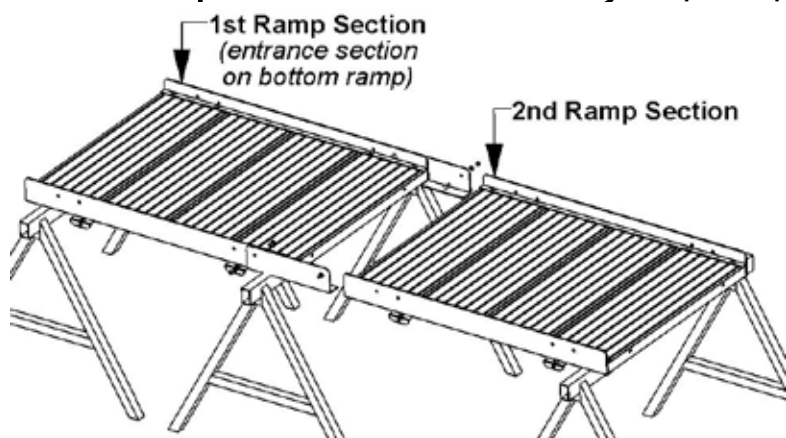
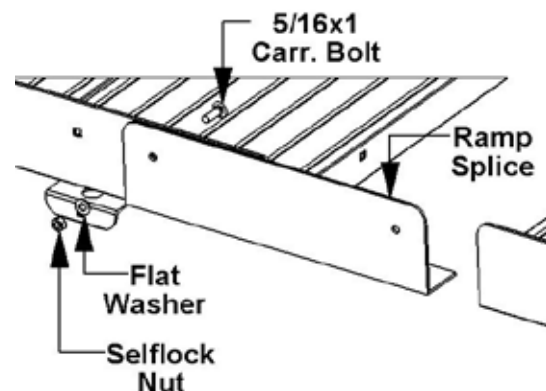

Fig.4.1
Fig.4.2
**4.1 Ramp Section Assembly:** If system has platforms assemble platforms first and set in place before assembling ramps. Start by setting the first ramp section (**shortest ramp section**) of the ramp run across a set of saw horses. (Fig.4.1) If assembling a bottom ramp run start with the entrance section. Attach a ramp splice to each side of the first section of ramp using the square holes in the ramp frame rail closest to the end of ramp section. Place ramp splice over the ramp frame rail and align the holes of the ramp splice and ramp frame rail (Fig.4.2). Place carriage bolt through the holes making sure to keep the head of the bolt to the inside of ramp section. Place washer over bolt and fasten with self locking nut. Position the next section of ramp and attach using the same method, repeat this process until entire ramp run has been spliced together.